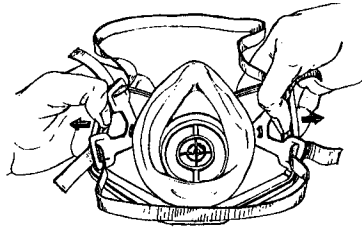

FIGURE 4
1. Remove the used filter from the respirator by unsnapping the filter cover from the filter holder. The left and right sides of the filter cover have tabs for retaining the filter holder. The respirator may be disassembled by gently prying the retention tabs outward from the edge of the filter holder. (See Figure 4.)